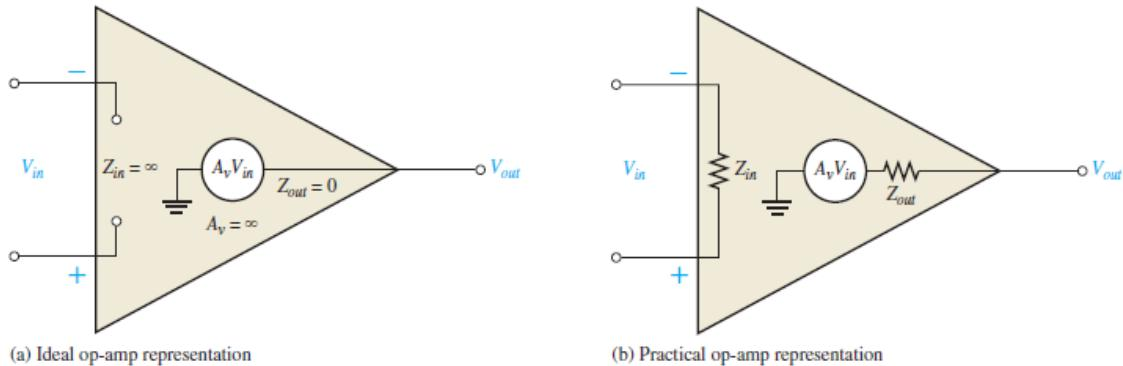

Figure 1: Basic op-amp representations
To illustrate what an op-amp is, let's consider its ideal characteristics. A practical op-amp, of course, falls short of these ideal standards, but it is much easier to understand and analyze the device from an ideal point of view. First, the ideal op-amp has *infinite voltage gain* and *infinite bandwidth*. Also, it has an *infinite input impedance* (open) so that it does not load the driving source. Finally, it has a *zero output impedance*. Op-amp characteristics are illustrated in Figure 1(a). The input voltage, V_{in} , appears between the two input terminals, and the
Although integrated circuit (IC) op-amps approach parameter values that can be treated as ideal in many cases, the ideal device can never be made. Any device has limitations, and the IC op-amp is no exception. Op-amps have both voltage and current limitations. Peak-to-peak output voltage, for example, is usually limited to slightly less than the two supply voltages. Output current is also limited by internal restrictions such as power dissipation and component ratings. Characteristics of a practical op-amp are very high voltage gain, very high input impedance, and very low output impedance. These are labelled in Figure 1(b).